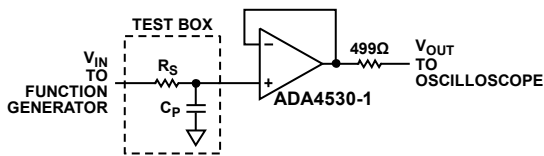

Figure 11. Measuring Total Input Capacitance with an Input Series Resistor
3. Connect a function generator to the input pin of the test box through an input series resistor,  $R_s$ , and an oscilloscope to the output of the ADA4530-1R-EBZ-BUF (see Figure 11).